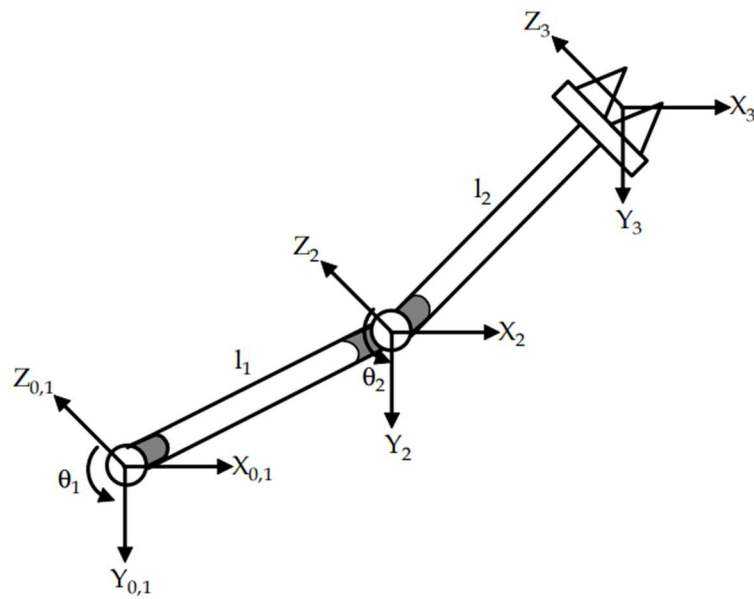

Figure 2
| 26. | Solve the inverse kinematics of the 2-DOF manipulator shown in figure 2 for the given DH parameter. (10) | 3 | 5 |